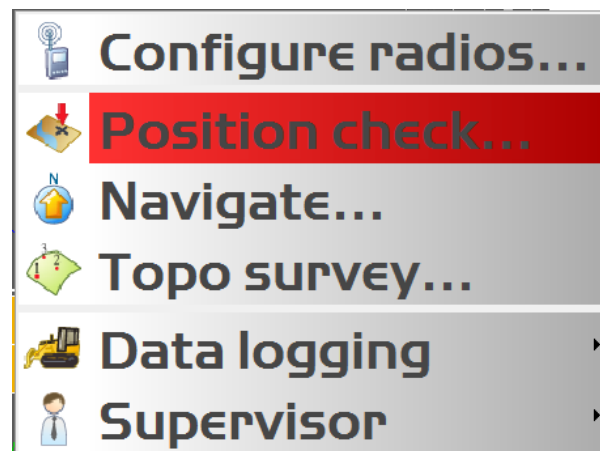

Figure 92: Locked Menu
4. Tap any menu, button, or screen item to disable them. The selections display in red when locked (Figure 92).